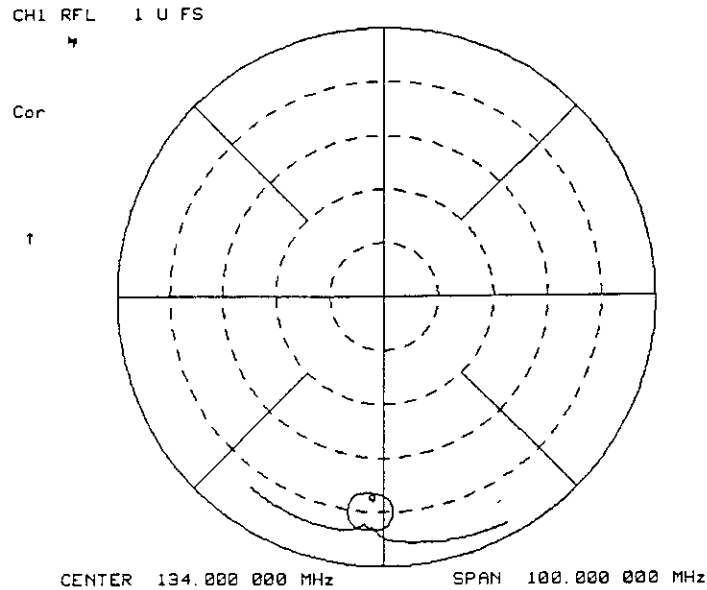

Figure 2-12.
2. Press **SCALE REF** **AUTO SCALE** to reposition the trace, as shown in Figure 2-12.
4. Turn the front panel knob to position the marker at any desired point on the trace, then read the frequency, linear magnitude and phase in the upper right hand corner of the display, as shown in Figure 2-12.